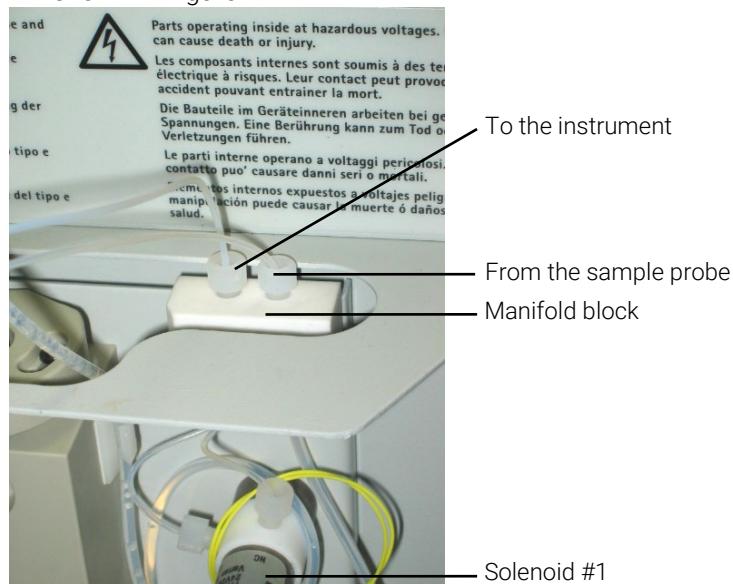

Figure 22. Connections to the sample probe and main instrument
- 1 Ensure that the tubing from the sample probe and main instrument are as shown in Figure 22.